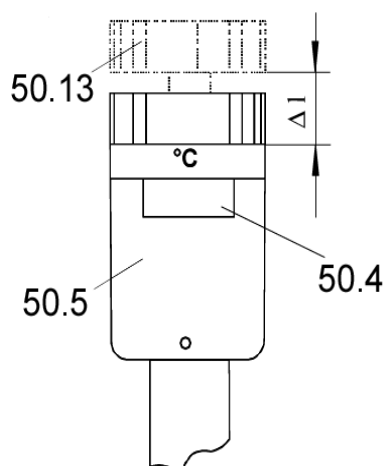

Fig. 7: Excess temperature indicator
- The temperature setting is done through turning the setting ring (pos. 50.13). The body (pos. 50.5) must be held fast; it is not allowed to turn.
- When alterations larger than 30 K are done, the excess temperature indicator can respond. This can be seen when the setting ring (pos. 50.13) has moved upwards from the body (Fig. 7) (pos. 50.5). In this case, the temperature regulation must be waited for, before further alterations are done. Excess responses from the indicator shortens the lifetime from the thermal controller!